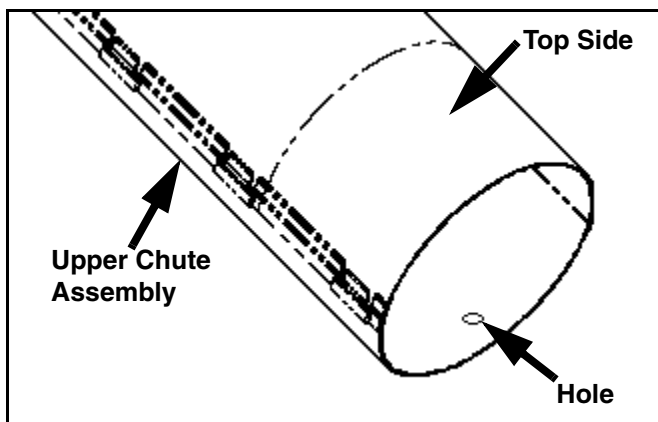

FIGURE 2
1. Check the upper chute assembly (631-04295) to see if the hole is present in the straight portion 1" from the end on the bottom side as shown in Figure 2.